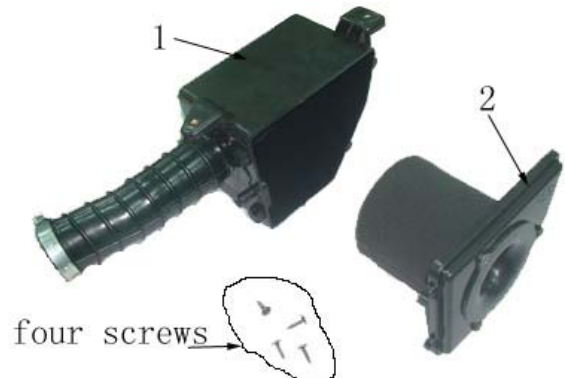

Figure 6
- a. Remove cleaner cover (See Fig. 6)